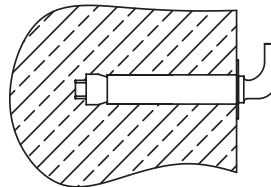

Figure 5
2. After selecting the mounting location, determine the locations for the two hook bolts (depending on the specifications of the selected item). Make two holes in the wall of the required depth using a drill bit that matches the size of the mounting bolts, insert the screws, turn the hook up, tighten the nuts, and then install the electric water heater on it (see Fig. 5).